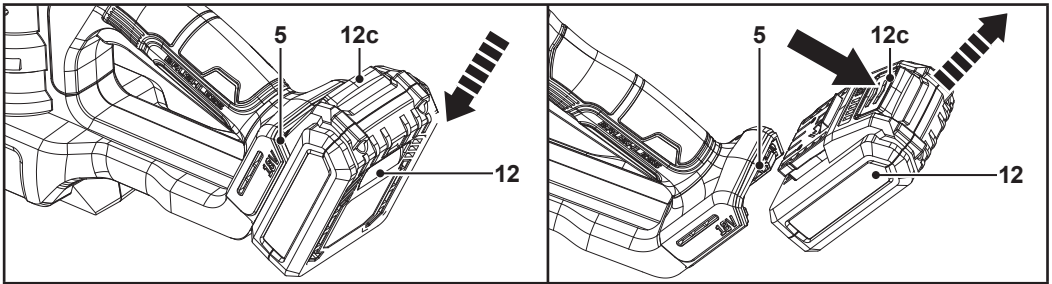
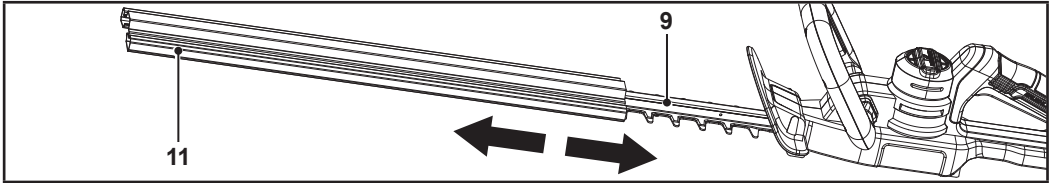

Fig. 2
Fig. 4
**Blade cover (11):** When the machine is not in use, remove the battery pack (12) (Fig. 2) and put the blade cover on the blade (9) (Fig. 4). Doing so, you protect the blade, avoid cutting injuries and damage to other objects.
**Attaching:** Align the battery pack (12) with the battery docking port (5) and slide it in. Make sure it clicks in place (Fig. 2).
**Removing:** Press the release button (12c) and remove the battery pack (12) from the battery docking port (5) (Fig. 2).
**Removing:** Slide the blade cover (11) from the blade (9) (Fig. 4).
**Attaching:** Slide the blade cover (11) on the blade (9) (Fig. 4).